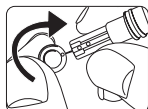

Figure 25
STEP 3: Remove the protective cap from the lancet by twisting it and then save it for later use. See Figure 25.